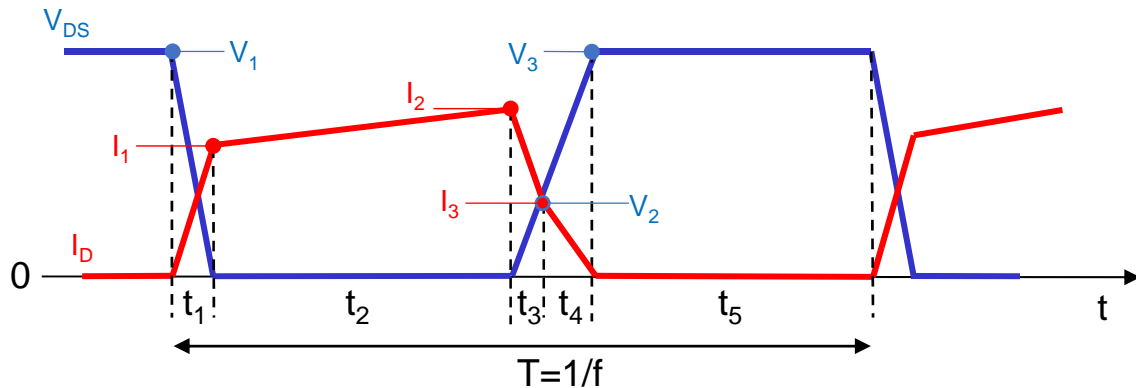

Figure 3: Read voltage and current values from waveform example
As indicated in Figure 3, read the voltage and current values of waveform for the period T. Use the read values and formula (4) to calculate the loss.